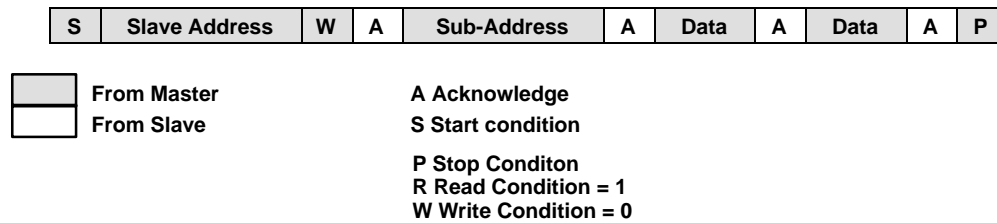

Figure 12. I²C Write Cycle
The transmitting device must not drive the SDA signal during the acknowledge cycle so that the receiving device may drive the SDA signal low. The master indicates a *not acknowledge* condition (/A) by keeping the SDA signal high just before it asserts the stop condition (P). This sequence terminates a read cycle as shown in Figure 12.
The slave address consists of 7 bits of address along with 1 bit of read/write information (i.e., read = 1 and write = 0) as shown in Figures 12 and 13. For the TFP510 the slave addresses are 0x70 for write cycles and 0x71 for read cycles.